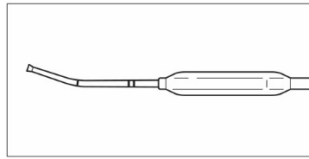

Figure 7: Sphenoid Bend
- **Sphenoid Sinuses:** When treating the sphenoid sinus ostia, a slight bend (Figure 7) is recommended.